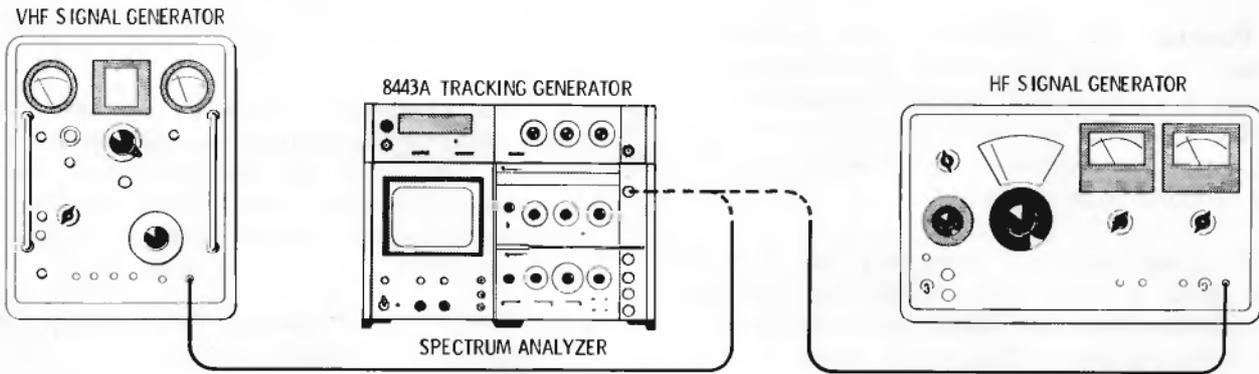

Figure 4-1. Frequency Range Test
1. Connect the equipment as shown in Figure 4-1 and set the controls as follows: